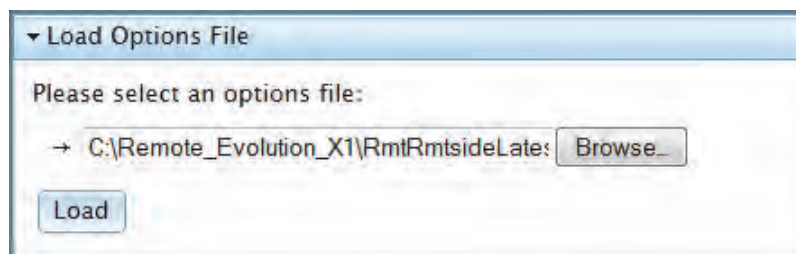

Figure 5-13. Load Button
- With the options file selected, click the **Load** button. See Figure 5-13.